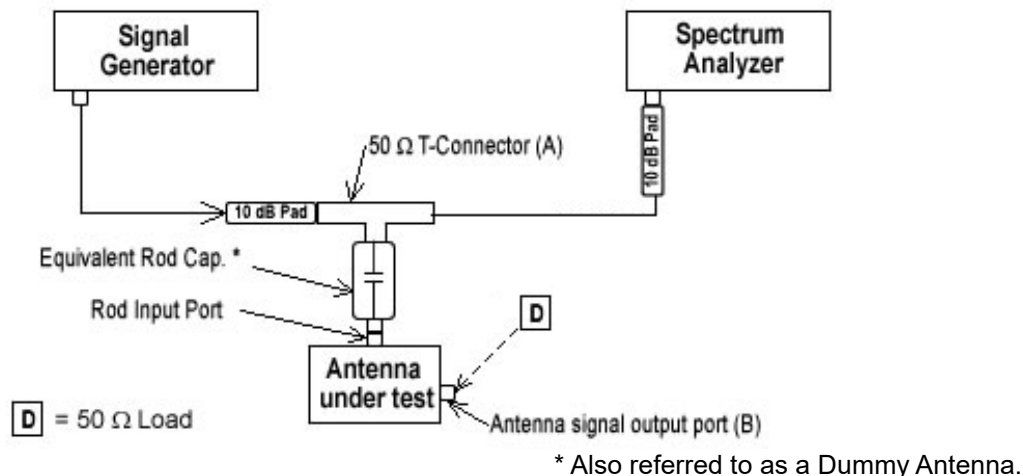

Figure 1
- 1) With the equipment connected as shown in Figure 1, measure the drive signal voltage V_D in $\text{dB}\mu\text{V}$ at the T-connector (A).